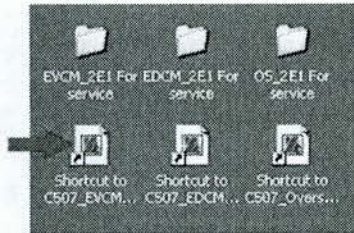

Figure 8
2.2 Double click the "C507_EVCM_2E1" shortcut (arrow Figure 8) on the computer's desktop to open the calibration tool.